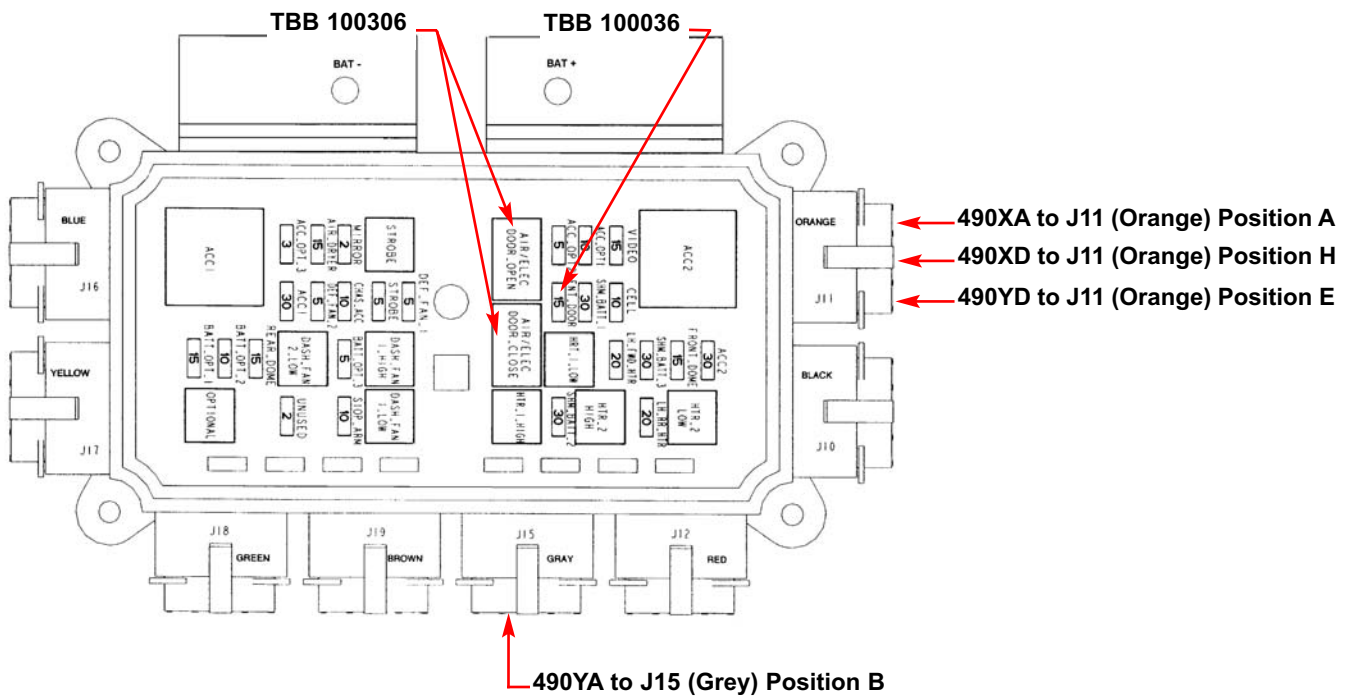

Figure 4 - Cab PDM
1.2 Wire Cab PDM: **Figure 4**